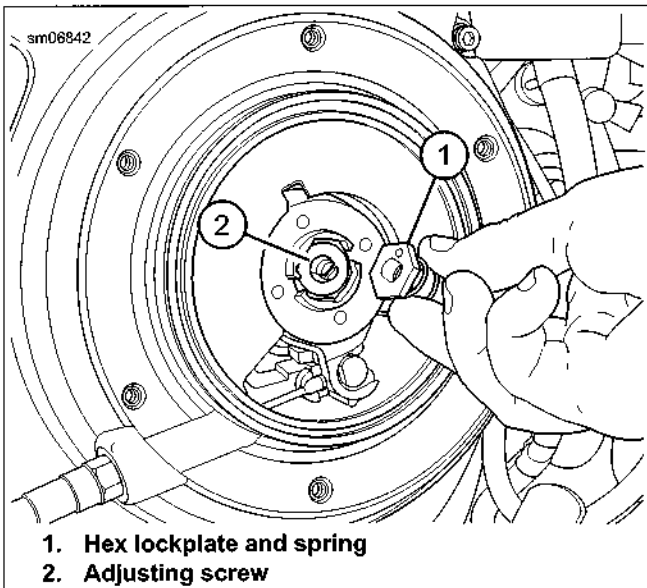

Figure 1-20. Clutch Adjustment Screw
3. See Figure 1-20. Remove the hex lockplate with the spring (1) from the clutch adjusting screw (2).